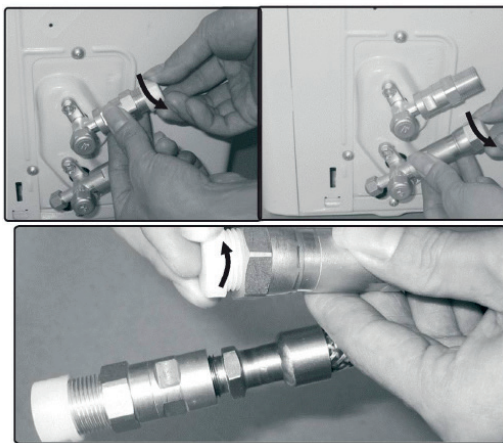

Fig. 6.2
2. Do not remove the plastic seals from the outdoor unit and the appropriate refrigerant pipes until immediately before you can need them, Fig.6.2